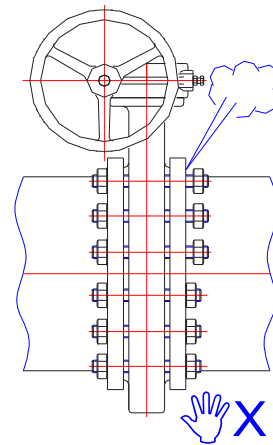

Fig.28
**17.3.2** Do not loose flange bolts, valve bolts when valve is on service. (Fig.28)